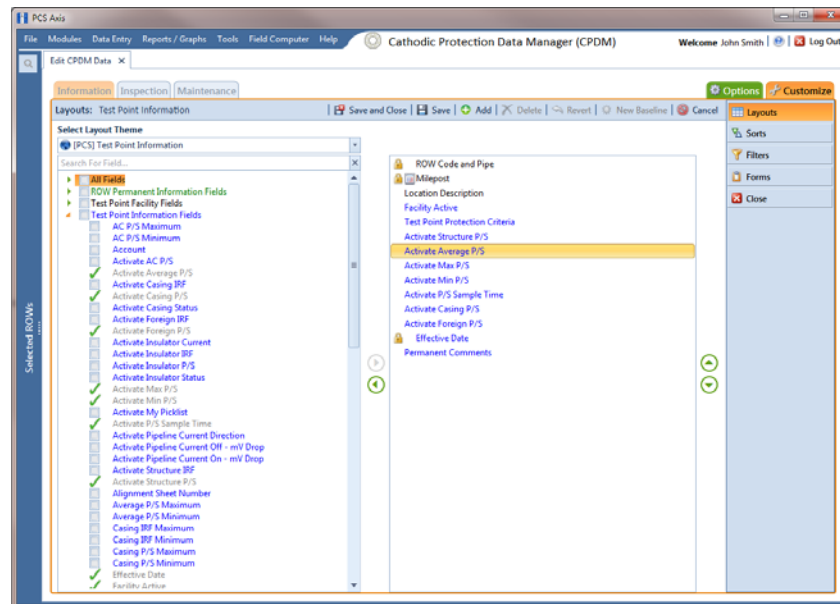

Figure 8-13. Layouts
- 4 Click the **Customize** tab  to open the *Layouts* page (Figure 8-13, page 363).